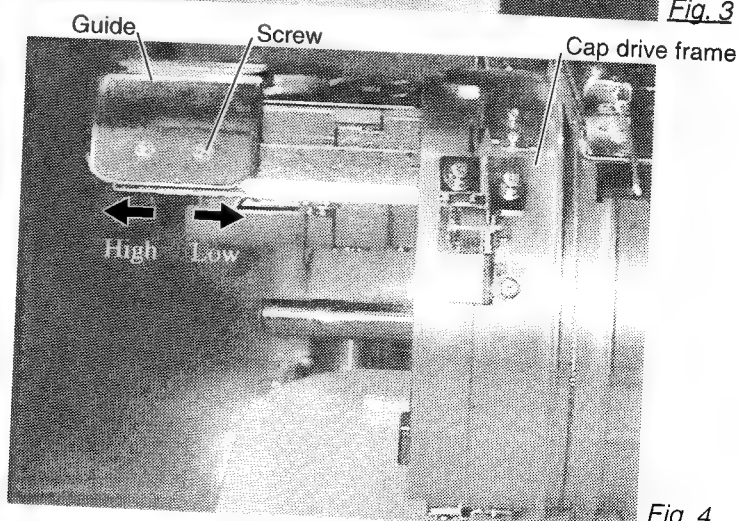

Fig. 4
2. Adjust the guide position to suit the height of the cap. Remove screws at left and right to adjust. (Fig. 4)
6. As shown in Fig. 4, lift cap stretcher to tip forward. Hold cap with clips at two places in back by stretching crease toward arrow marked direction from front of the cap.